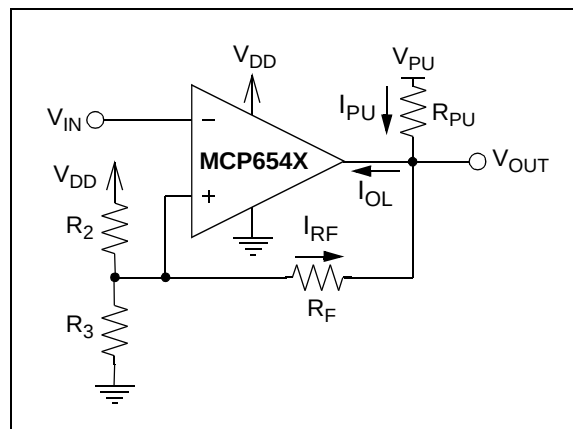
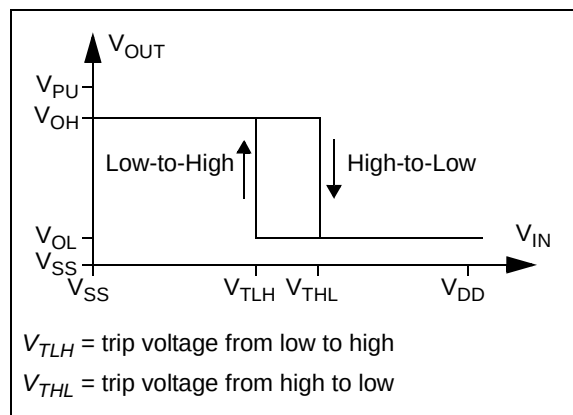
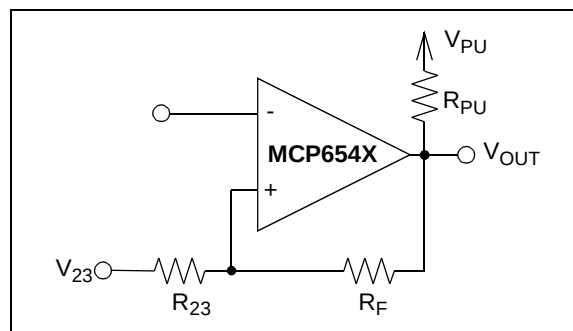

FIGURE 4-4: Inverting Circuit with Hysteresis.
FIGURE 4-5: Hysteresis Diagram for the Inverting Circuit.
FIGURE 4-6: Thevenin Equivalent Circuit.
Figure 4-4 shows an inverting circuit for a single-supply application using three resistors, besides the pull-up resistor. The resulting hysteresis diagram is shown in Figure 4-5.
In order to determine the trip voltages (V_{TTL} and V_{TLH}) for the circuit shown in Figure 4-4, R_2 and R_3 can be simplified to the Thevenin equivalent circuit with respect to V_{DD} , as shown in Figure 4-6.
Figures 2-21 and 2-24 can be used to determine typical values for V_{OL} . This voltage is dependent on the output current I_{OL} as shown in Figure 4-4. This current can be determined using the equation below:
- For the Inverting Configuration (Figures 4-4 and 4-7):